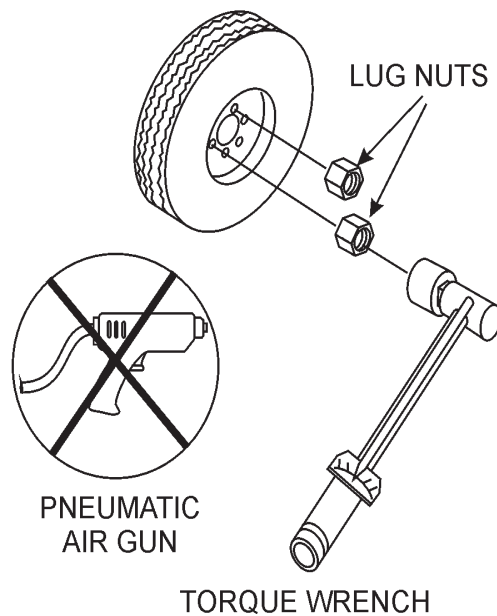

Figure 8. Wheel Lug Nuts Tightening Sequence
2. Torque all lug nuts in sequence. See Figure 8. **DO NOT** torque the wheel lug nuts all the way down. Tighten each lug nut in 3 separate passes as defined by Table 6.